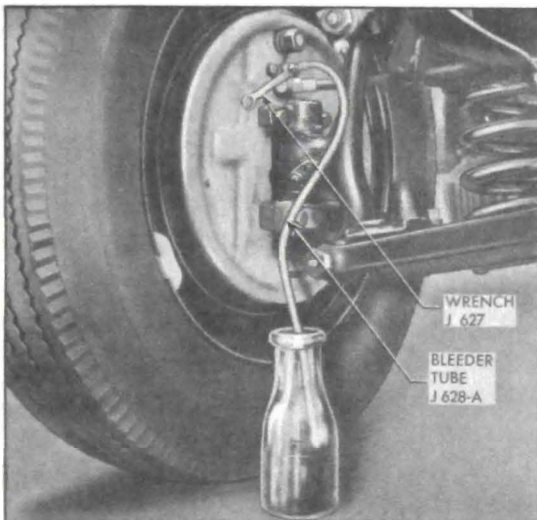

Figure 9-6—Bleeding Wheel Cylinder
3. Remove screw and attach Brake Bleeder Tube J-628-A to wheel cylinder bleeder valve. Place lower end of bleeder tube in a clean glass jar. Unscrew bleeder valve $\frac{3}{4}$ of a turn, using Bleeder Wrench J 627. See figure 9-6.